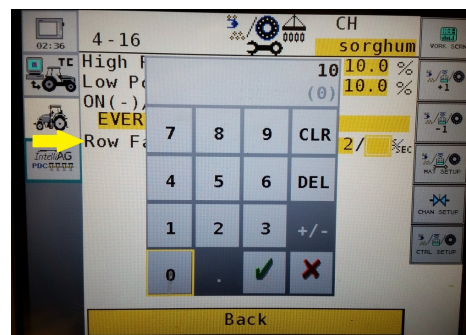

Figure 23
Step 18. Select **Row Fail Rate**. This sets the limit you want to show rows have failed. This is typically set at 2 seeds every 10 seconds. Anytime the row sensors do not sense at least 2 seeds every 10 seconds, it will show that row has failed. (Figure 23)